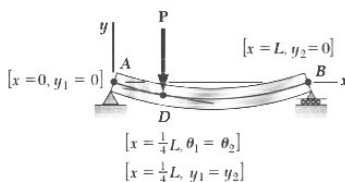

Fig. 9.19
**Determination of the Constants of Integration.** The conditions that must be satisfied by the constants of integration have been summarized in Fig. 9.19. At the support  $A$ , where the deflection is defined by Eq. (9.20), we must have  $x = 0$  and  $y_1 = 0$ . At the support  $B$ , where the deflection is defined by Eq. (9.24), we must have  $x = L$  and  $y_2 = 0$ . Also, the fact that there can be no sudden change in deflection or in slope at point  $D$  requires that  $y_1 = y_2$  and  $\theta_1 = \theta_2$  when  $x = L/4$ . We have therefore: